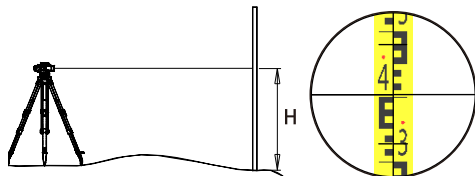

Figure 6
- ① Use the ruler side of the staff, and keep vertical.
- ② Adjust eyepiece and focusing knob to make reticle and staff images both clear.
- ③ Read Data as Figure 6,  $H=1.403\text{m}$